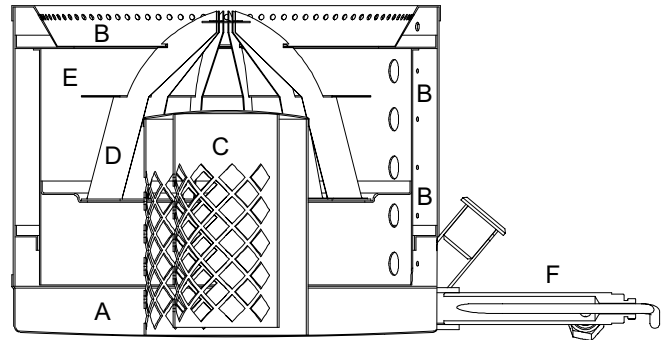

Figure 15
1. Through the open door, remove the catalyser components (C, D and E, figure 15) from the burner.
Light with a long taper or wadded piece of paper. Immediately replace the catalyser components (figure 15). Ensure that the top is centred.
Remove all three catalyser components (C, D, E, figure 15, page 10). Remove any carbon residue and remaining oil from the burner using a slightly damp cloth. Buff dry before reinstalling.